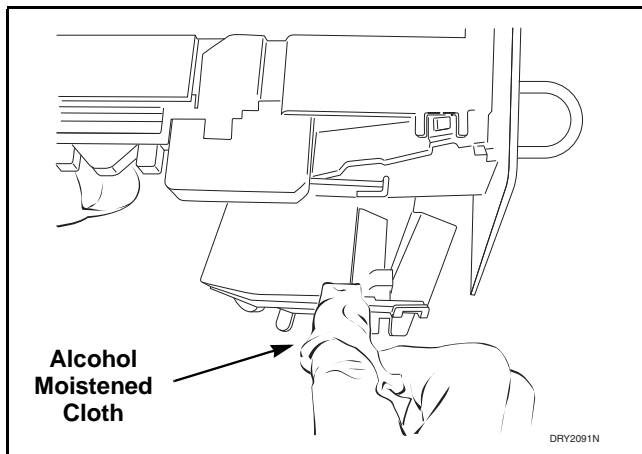

Figure 65
- f. Clean residue from coin rail with an alcohol moistened cloth. Refer to *Figure 65*.